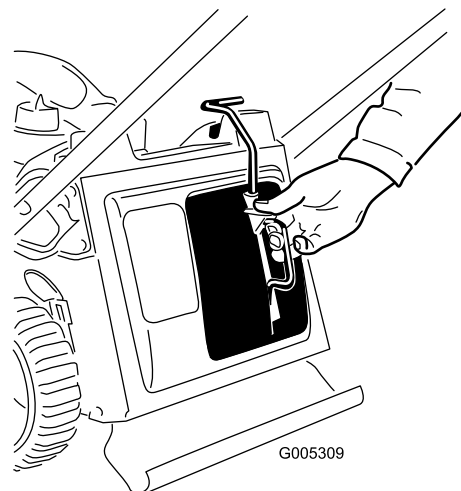

Figure 21
1. Remove the mulch plug (Figure 21).